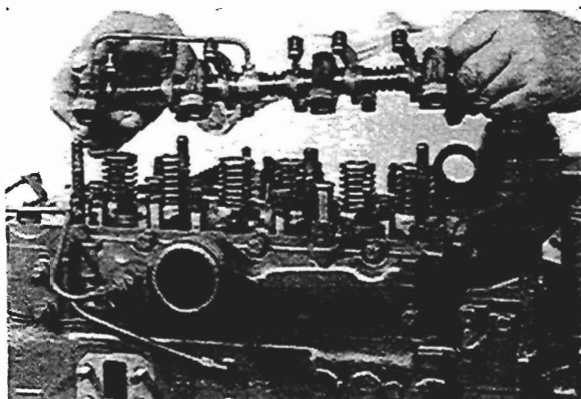

Fig. F3
14. Disconnect lubricating oil pipe to rocker shaft and remove rocker shaft assembly with pipe (see fig. F3).